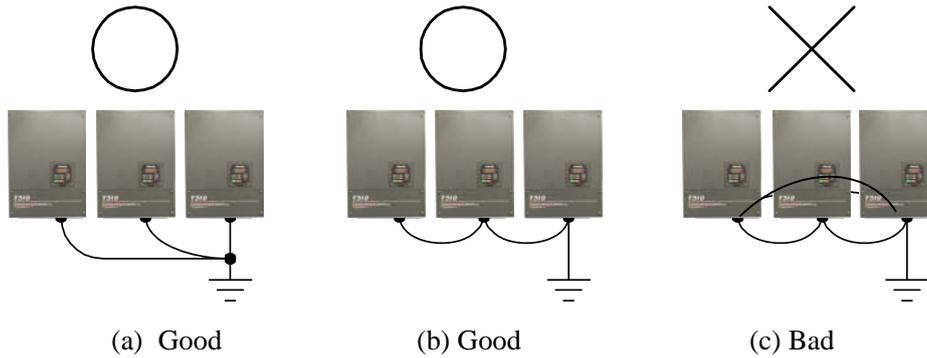

Fig. 3.6 Inverter Grounding
1. Connect the ground terminal (E) to ground having a resistance of less than 100Ω.
4. When using more than one inverter, be careful not to loop the ground wire, as shown below in Fig. 3.6